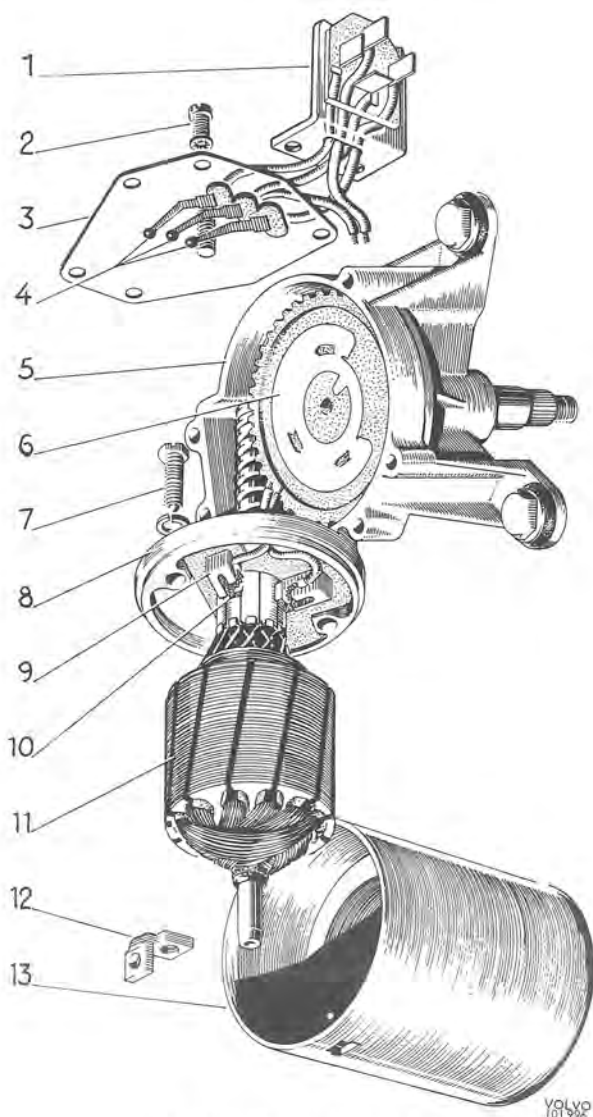

Fig. 3-94. Windshield wiper motor
Release the five screws (2, Fig. 3-94) and bend the cover (3) out of the way, then press out the plastic gear wheel. Remove the screws (7) and pull out the stator. Remove the screws for the negative brush and the washer on the ball bearing axial lock. Remove the washer for the axial lock. Move the brushes aside and carefully pull out the rotor. Take great care with the brushes since the ball bearing has a larger diameter than the commutator.